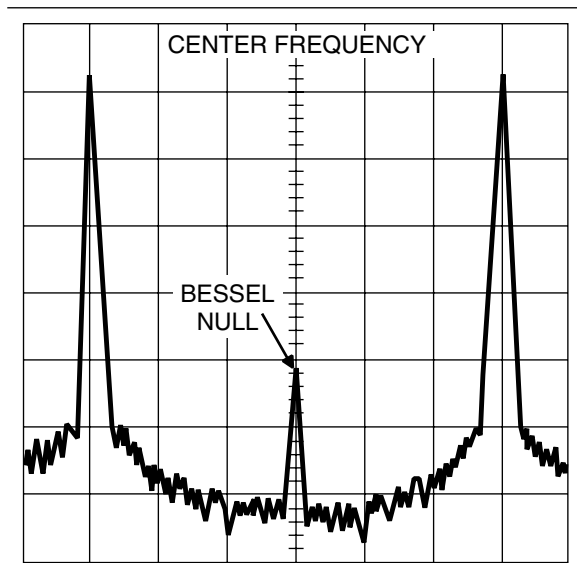

Figure 4-16. Typical Spectrum Analyzer Display of Bessel Null on FM Waveform
- e. While observing the first Bessel null (Figure 4-16) on the Spectrum Analyzer display, adjust the value of the DAC's setting to reduce the carrier level as low as possible.
- f. While observing the first Bessel null (Figure 4-16) on the Spectrum Analyzer display, adjust the value of the DAC's setting to reduce the carrier level as low as possible.